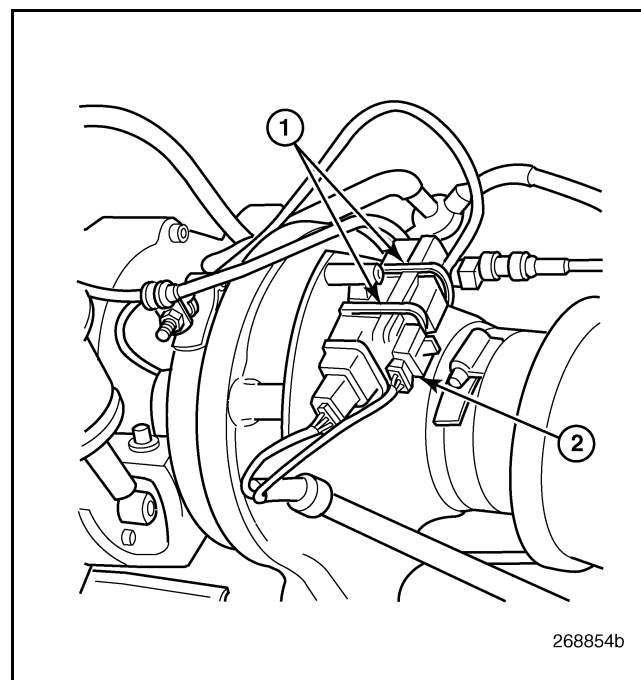

Figure 532 — Turbocharger Wheel Speed Sensor Connector Mounting
16. Connect the turbocharger wheel speed sensor connector to the engine harness connector, then secure the connector on top of the vane position sensor with two tie straps as shown in Figure 532.